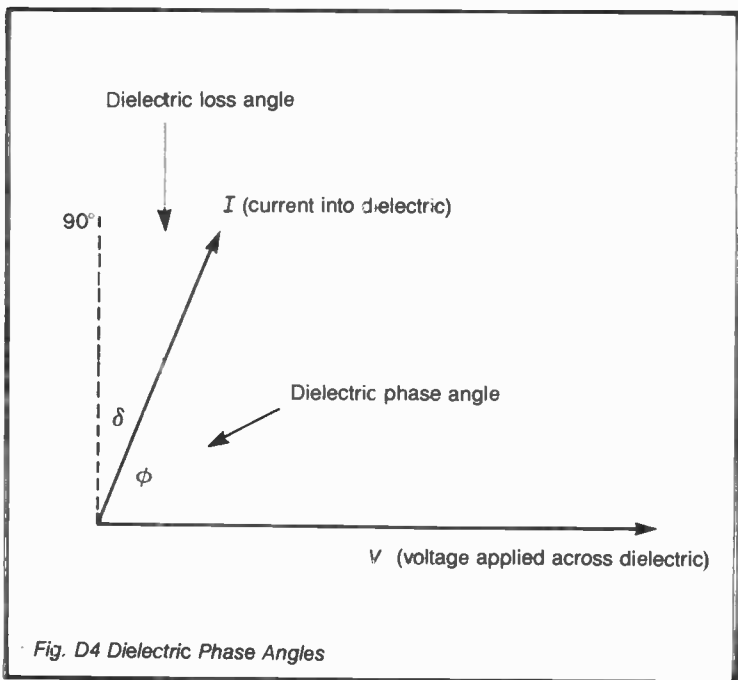

Fig. D4 Dielectric Phase Angles
**DIELECTRIC LOSS ANGLE** Application of a voltage across a dielectric results in the displacement of electric charges and this represents a storage of energy. However, some energy is absorbed in the process and this is indicated by the *dielectric loss angle*. It is given the symbol  $\delta$  and is the difference between the *dielectric phase angle* and  $90^\circ$  as shown in Figure D4. Clearly the more efficient a material is as a dielectric, the smaller is its loss angle. The tangent of the loss angle is the *dissipation factor*.
**DIELECTRIC PHASE ANGLE** When a sinusoidal alternating voltage ( $V$ ) is applied across a dielectric material, the resulting current ( $I$ ) leads in phase by the dielectric phase angle  $\phi$ . This is shown as a phasor diagram in Figure D4. The cosine of the dielectric phase angle is the *dielectric power factor*.